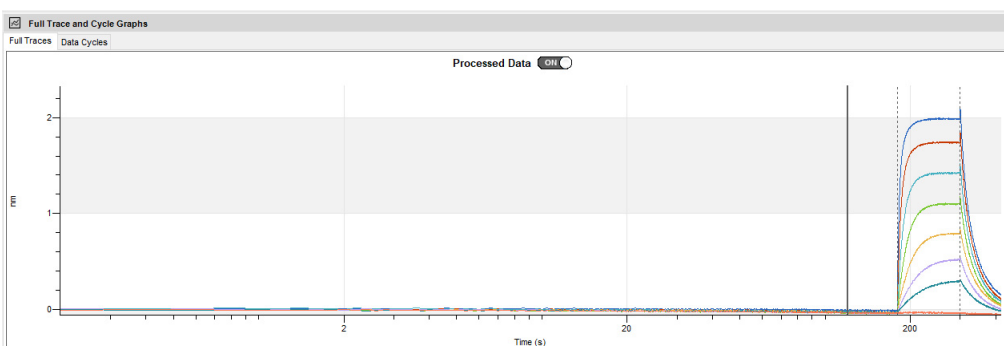

Figure 2-26: X-axis Log Scale Selected
- **Log Scale** - Checking or deselecting this box changes the X and Y scale from linear to log scale (Figure 2-26).